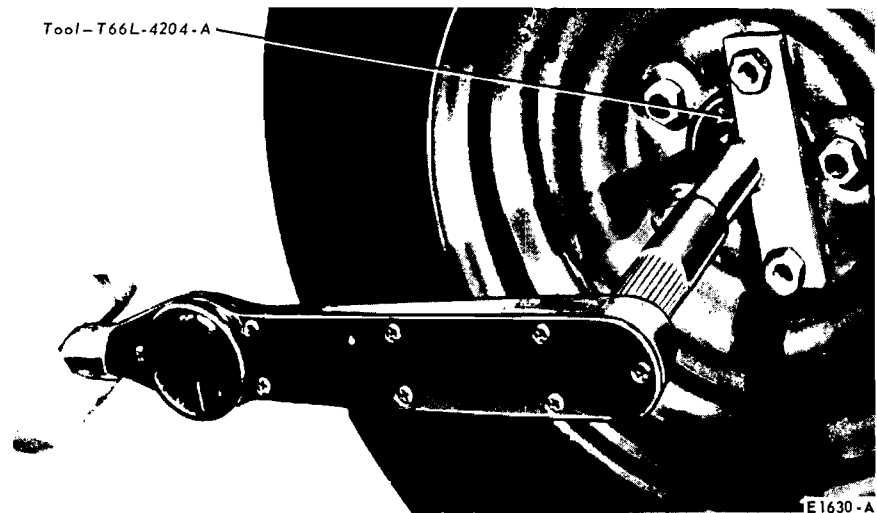
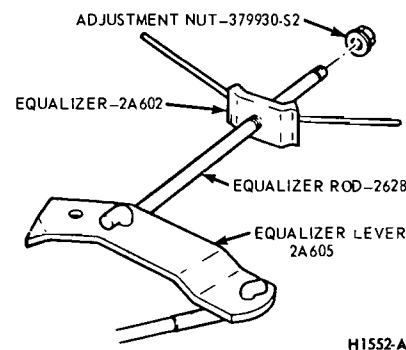

FIG. 3—Checking Parking Brake Break-Away Torque
FIG. 4—Parking Brake Linkage Adjustment—Mustang and Cougar
3. Raise the vehicle. Remove the wheel cover. Install Tool T66L-4204-L on the rear wheel (Fig. 3).
4. Turn the locking adjustment nut forward against the cable guide on the equalizer (Fig. 4) until there is 100 ft-lbs break-away torque at the rear wheel when turning the rear wheels in the direction of forward rotation with a torque wrench (Fig. 3). The torque measurement must be made relative to the centerline of the wheel.
wheels in the direction of forward rotation with a torque wrench and Tool T66L-4204-L as shown in Fig. 3.